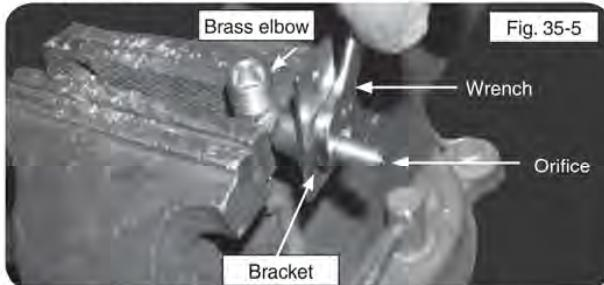

Fig. 35-5
6. Remove the bracket and orifice assembly from the barbecue and use two wrenches to loosen the orifice from the elbow. Use a $\frac{7}{16}$ " wrench with the orifice and a small adjustable wrench or crescent wrench to grip the brass elbow (Fig. 35-5).